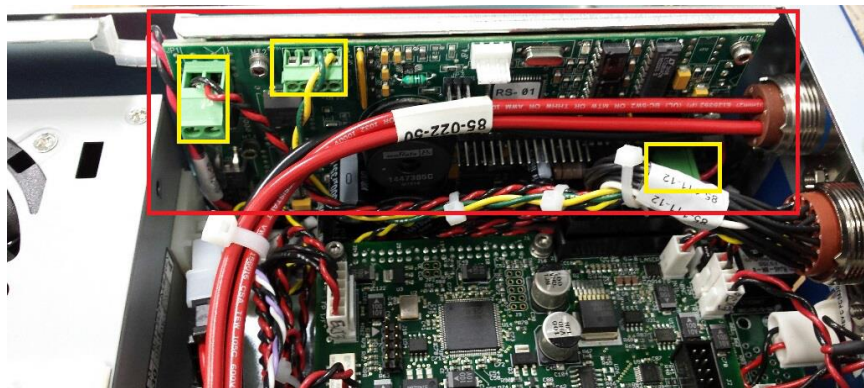

Figure 2
5. Locate the TEC board (circled in red in **Figure 2**). Use a flat screwdriver to ensure that the three connections in yellow are good and tight.